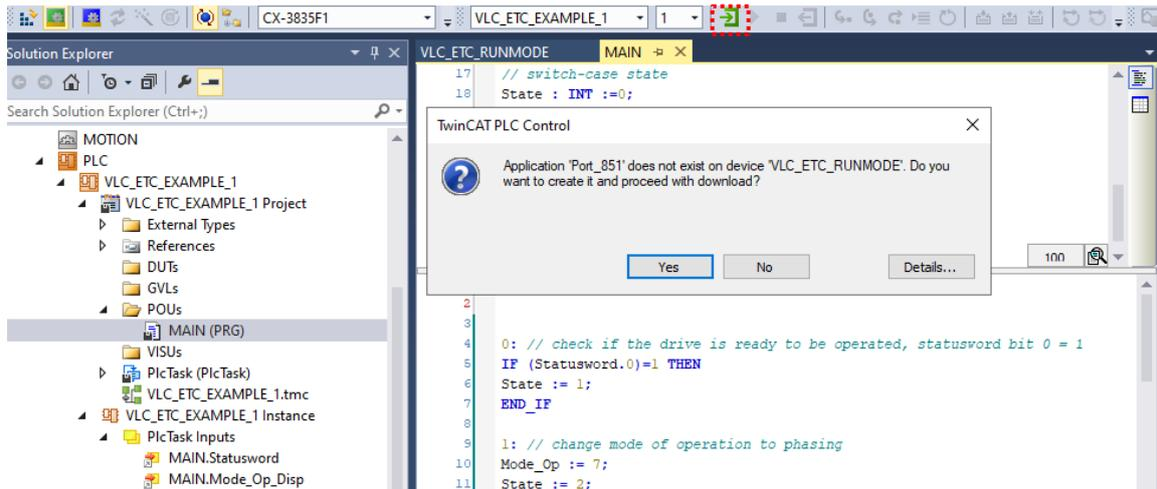

Figure 3.15. Login to the PLC program.
- Click on the login button in the rectangle in Figure 3.15 and select 'Yes' on the window that appears.